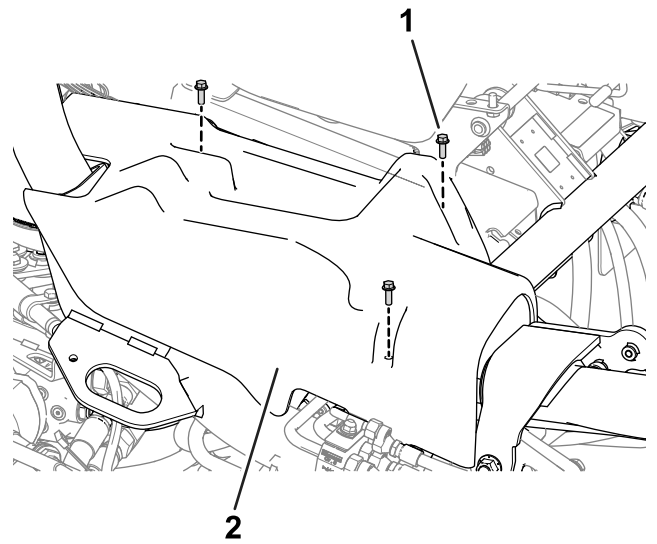

**Figure 9**
3. Install the connector labeled P02 on the telematics wire harness to the telematics device (Figure 9).